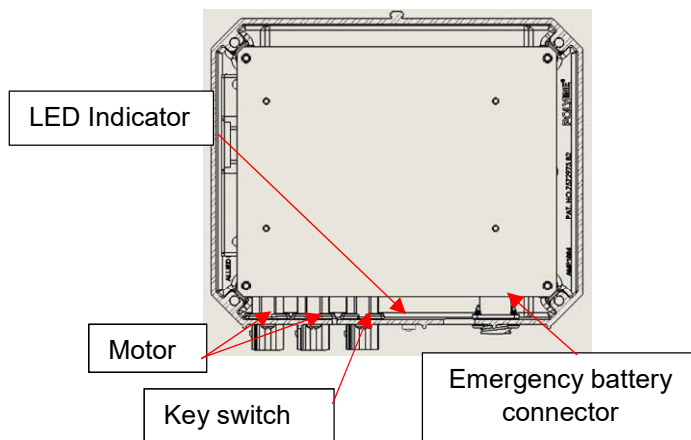

Figure 108
- 3) Start by connecting the two motor jack harnesses to the AC control box (Figure 108). **Use the wires that were connected in step 13-14 in the *lifting mechanism assembly* section.** Put the exceeding wires as close to the swim spa as possible to hide and protect the wires. (Figure 107)
- 4) Unpack the key switch and plug the harness into the AC control box. (Figure 108)